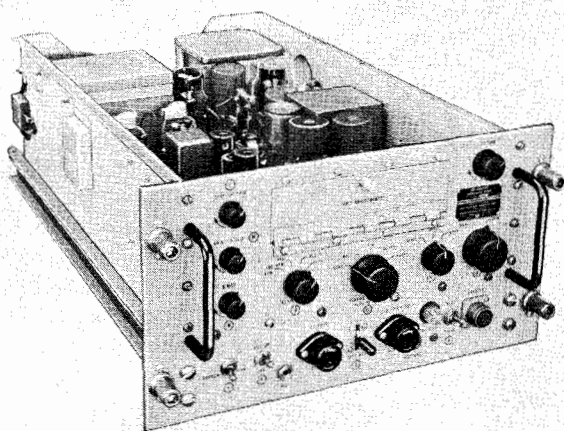

Figure 1-5. Radio Modulator MD-229/SRT, Front Oblique View
(2) RADIO MODULATOR MD-229/SRT (LOW LEVEL RADIO MODULATOR, LLRM). (See figure 1-5.)—This unit is commonly called the low level radio modulator (LLRM) to distinguish it from the high level radio modulator that is used in AN/SRT-15 and AN/SRT-16 sets. The low level radio modulator accepts voice, telegraphy (hand or machine key), or facsimile signals. It contains audio amplifying and modulating circuits for amplitude modulation of the r-f carrier at the 100-watt level. For 500-watt carrier operation in the AN/SRT-15 and 16, the low level radio modulator feeds a high level radio modulator that boosts the audio signal to the required level. Peak limiting and noise suppression (squench) features are provided in the audio circuits. Either carbon or dynamic microphones may be used.